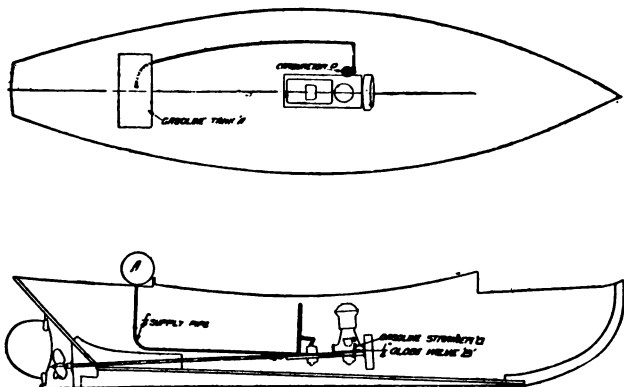

FIG. 22.— Fuel System.
**T**HE FUEL SYSTEM consists of a fuel tank, or source of supply, a strainer for liquid fuel, a carbureter, atomizer, or other agent for converting the fuel to a combustible vapor, and the exhaust, which generally terminates in a muffler. In the case of liquid fuel such as kerosene and gasoline, it is necessary to volatilize them and mix with air before they can be ignited in the cylinder. Fig. 22 illustrates an ordinary gasoline supply system.
FIG. 22 a.—Cross-section View of Schebler Strainer.